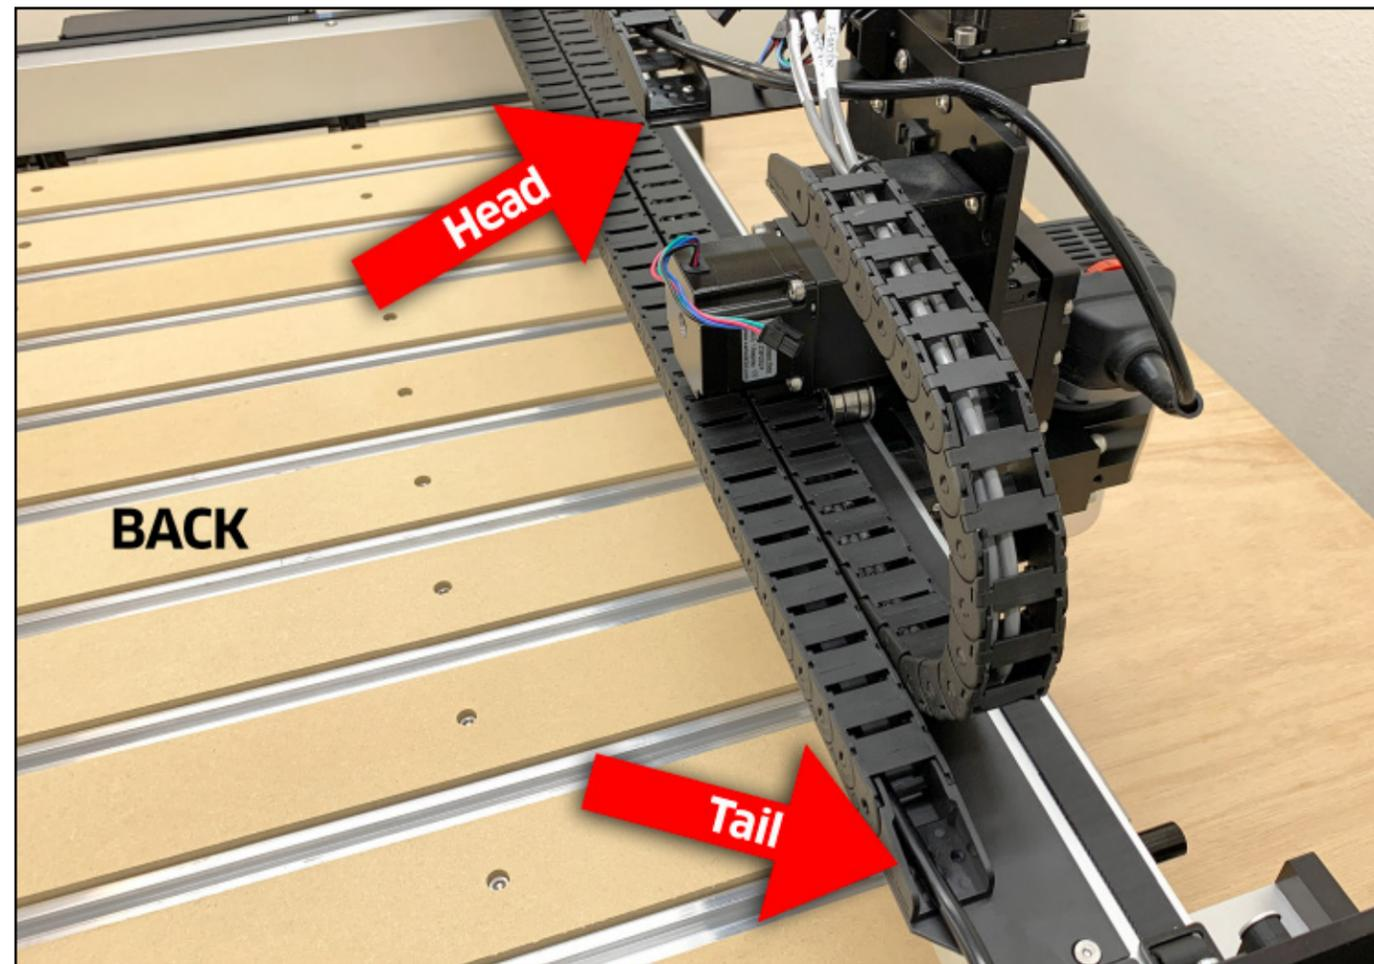

Figure 7-10
- a. Head of the drag chain attaches to the head bracket. **See Fig. 7-10.**
2. Use a 2mm hex key and two (2) M3×6mm BHCS to secure the drag chain. Fully tighten.